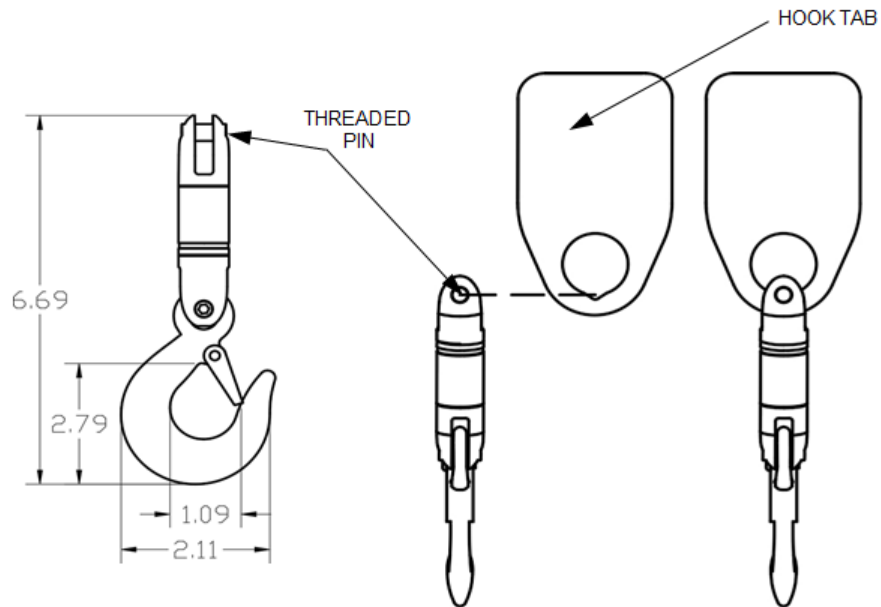

FIG. 3.1
- 3.2 Using a 5/32" Allen Wrench, remove the Threaded Pin and then slide the Swivel Hook over the Hook Tab (FIG. 2.1, FIG. 2.6, and FIG. 3.1). Reinstall the Threaded Pin and tighten.